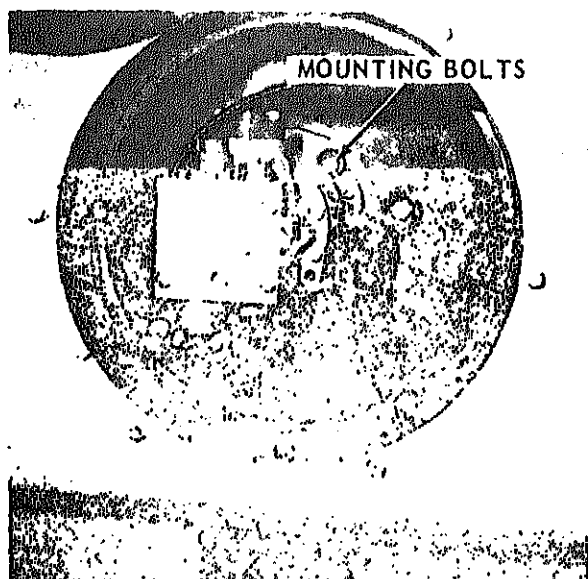

FIGURE 7-48.
7-182. INSTALLATION (see figures 7-48 and 7-49).
- a. Install a new gasket. Make sure that the new gasket is properly installed as shown in figure 7-48. If positioned wrong, the relief valve port will be covered by the gasket.